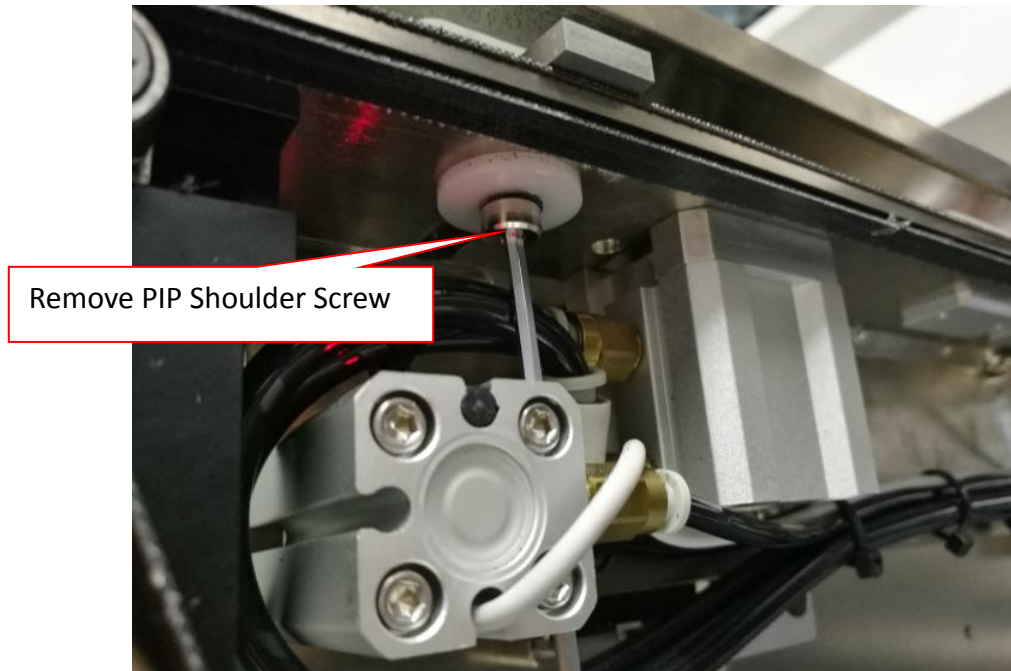

Figure 1 PIP Shoulder Screw removal
4. Remove 1 x 8-32 thread (Inches type) PIP Shoulder Screw from Stop, PC Board as shown in Figure 1.